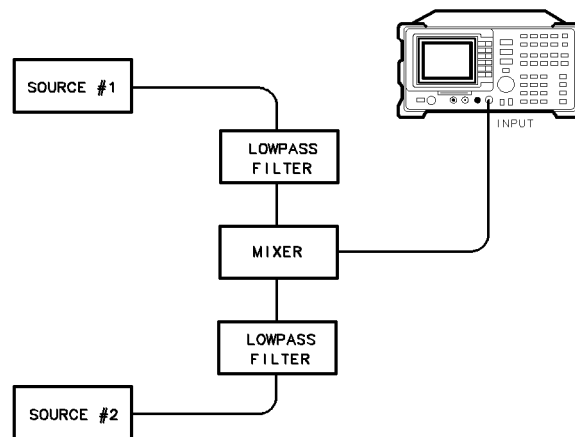

Figure 6-24. Third-Order Intermodulation Equipment Setup
1. Connect the equipment as shown in Figure 6-24.